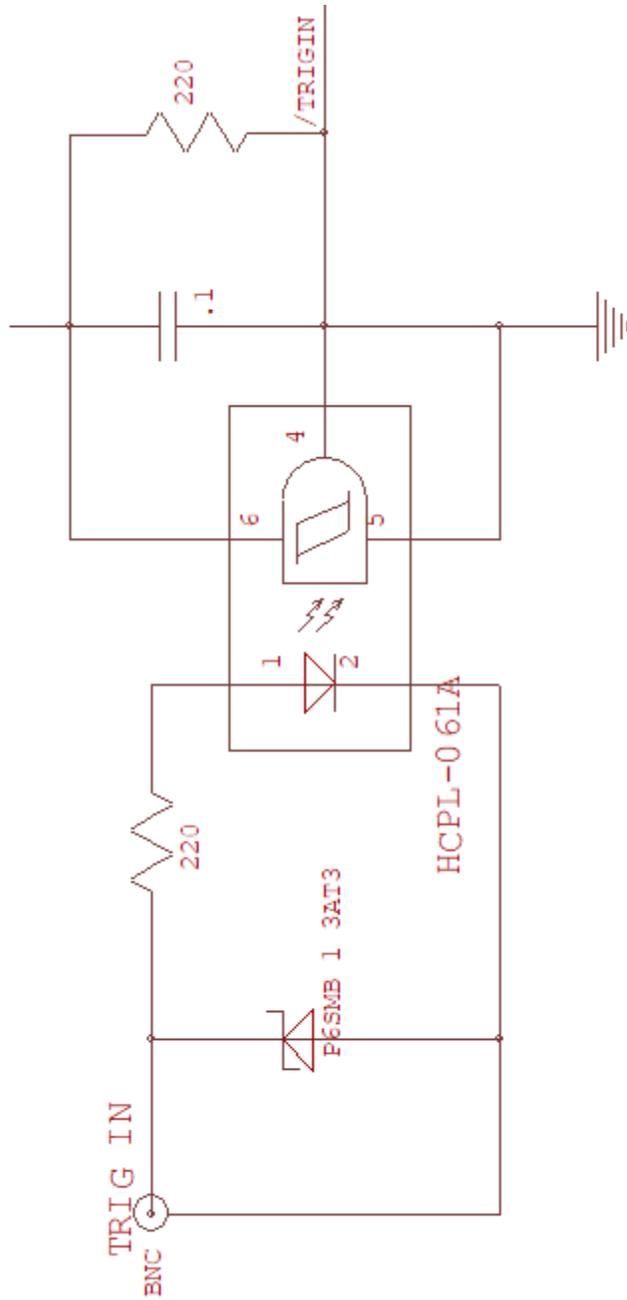

Figure A.1 Trigger Input Circuit
*Trigger drive must be able to source 10ma min. Trigger input is rising edge sensitive. Refer to Figure A.1.